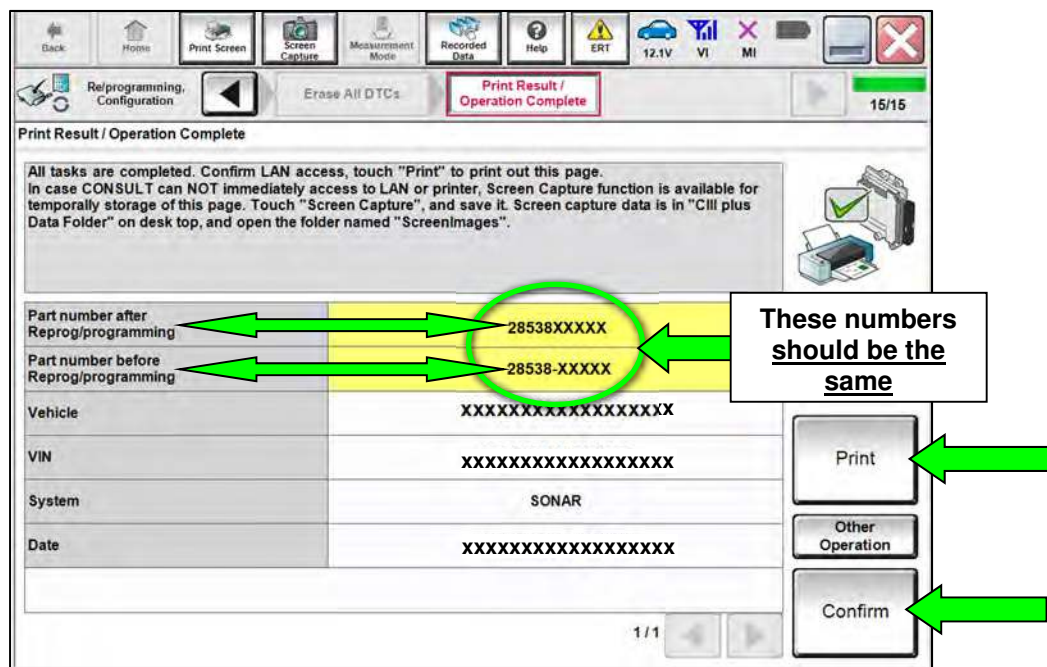

Figure 25
HINT: When the entire reprogramming process is complete, the screen in Figure 25 on page 17 will display.
41. Print a copy of the screen below (Figure 25) and attach it to the repair order for warranty documentation.